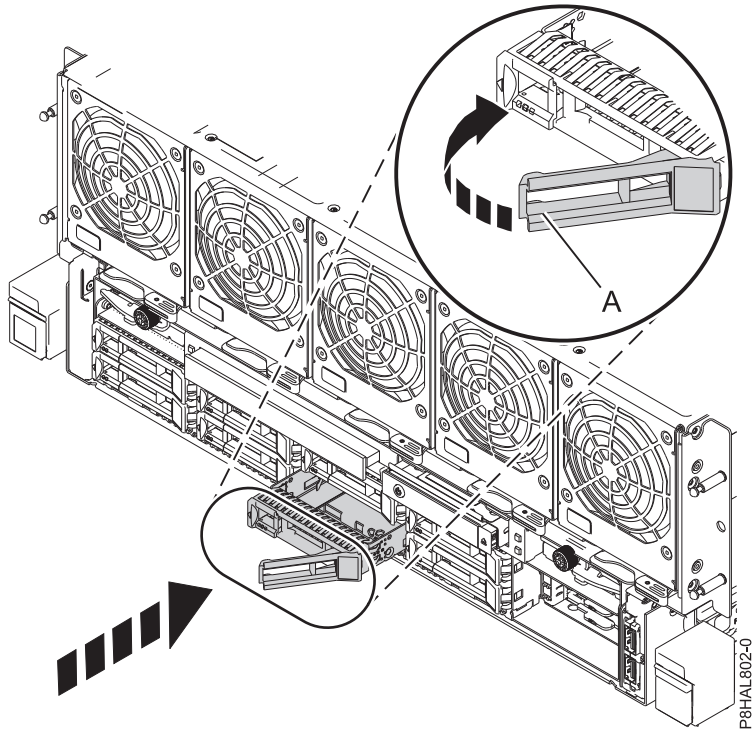

Figure 19. Replacing the disk drives
- a. Unlock the drive bay handle (A) by pressing it and pulling it out toward you. If the handle is not all the way out, the drive does not slide into the system.
- c. Slide the drive all the way into the system, and push the drive bay handle (A) in until it locks, as shown in Figure 19 on page 16.